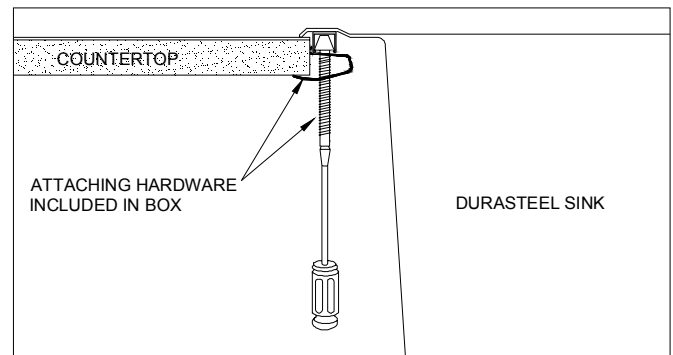

Figure 2C
- Tighten all clamps, working from the center out, an additional quarter turn with the slotted screwdriver. (FIG. 2C)